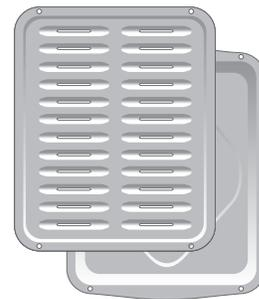

Figure 10: Broil pan and insert
6. Place the broiler pan and insert on the oven rack. Broil with oven door closed all the way (Figure 10).